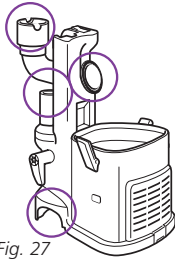

Fig. 27
- Remove the dust cup and extension wand and separate the detachable canister from the motorized floor brush. Look in all 4 openings for any blockages. (Fig. 27)